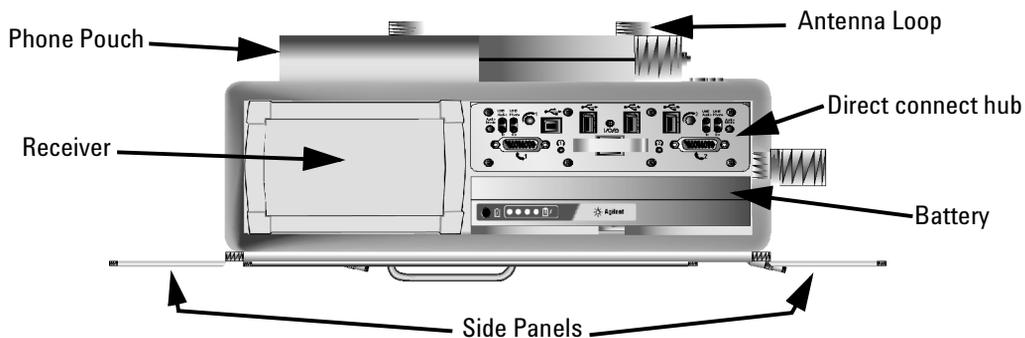

Figure 30 Single receiver backpack (right side view)
- 1 Route the USB, antenna, and phone cables through the openings provided. See Figure 30.